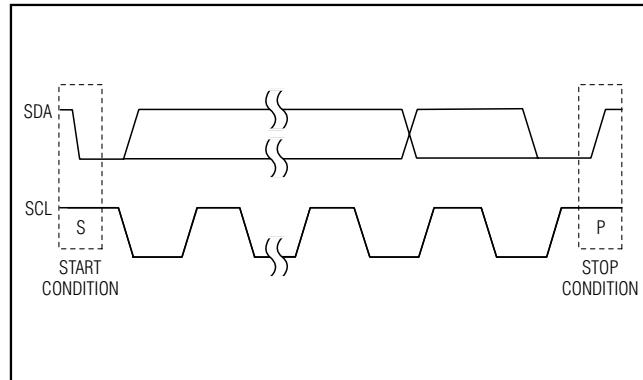
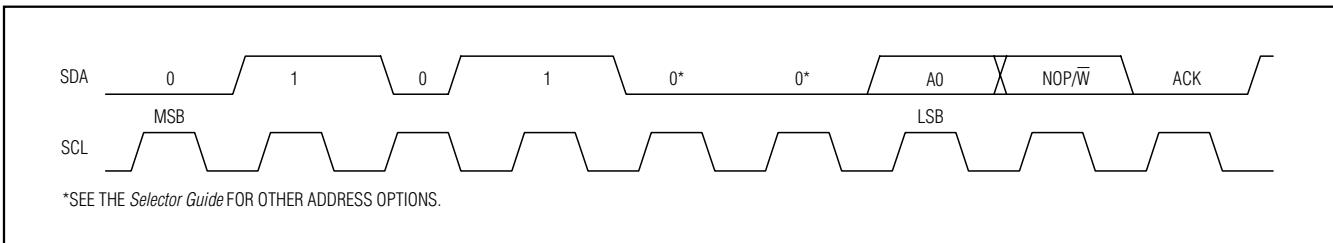
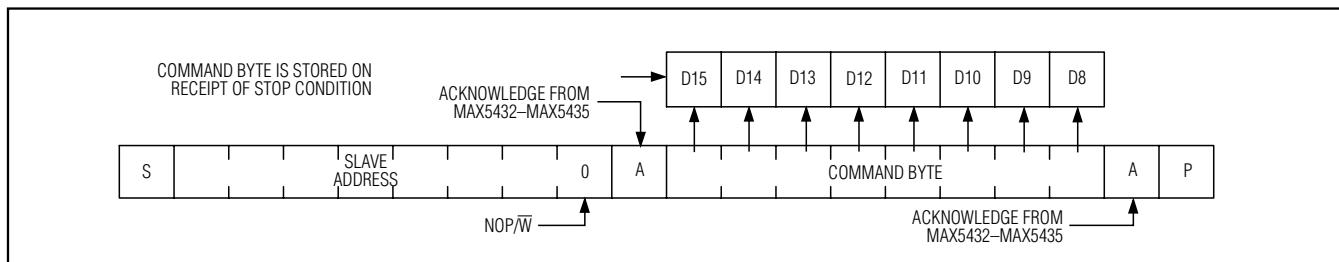

Figure 3. Start and Stop Conditions
Figure 4. Slave Address
Figure 7. Command Byte Received
Each transmission consists of a START (S) condition (Figure 3) sent by a master, followed by the MAX5432–MAX5435 7-bit slave address plus the 8th bit (Figure 4), 1 command byte (Figure 7) and 1 data byte, and finally a STOP (P) condition (Figure 3).
high while SCL is high. The bus is then free for another transmission (Figure 3).
The MAX5432–MAX5435 have a 7-bit-long slave address (Figure 4). The 8th bit following the 7-bit slave address is the NOP/W bit. Set the NOP/W bit low for a write command and high for a no-operation command.